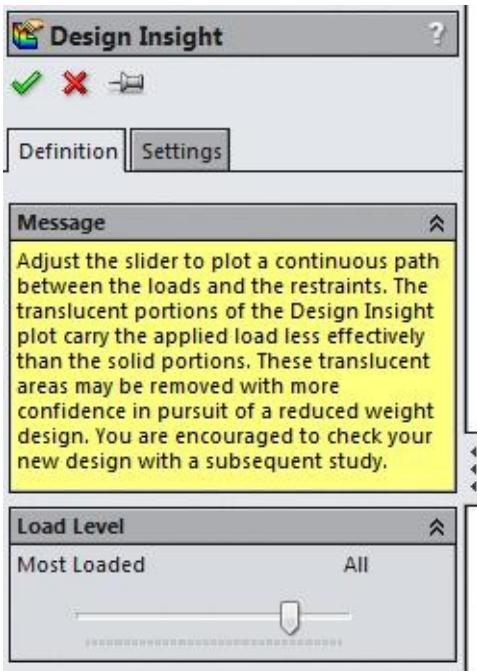

Figure-87. Design Insight PropertyManager
- Click on the desired option from the menu. The respective **PropertyManager** will display; refer to Figure-87 for **Design Insight**.